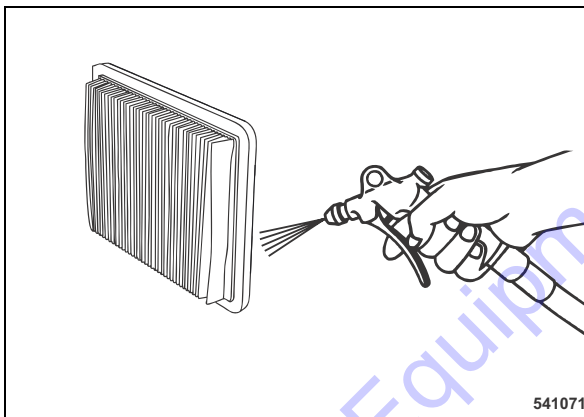

Fig. 68
- If soiled with dry fine dust blow the air filter out from the clean air side (Fig. 68).